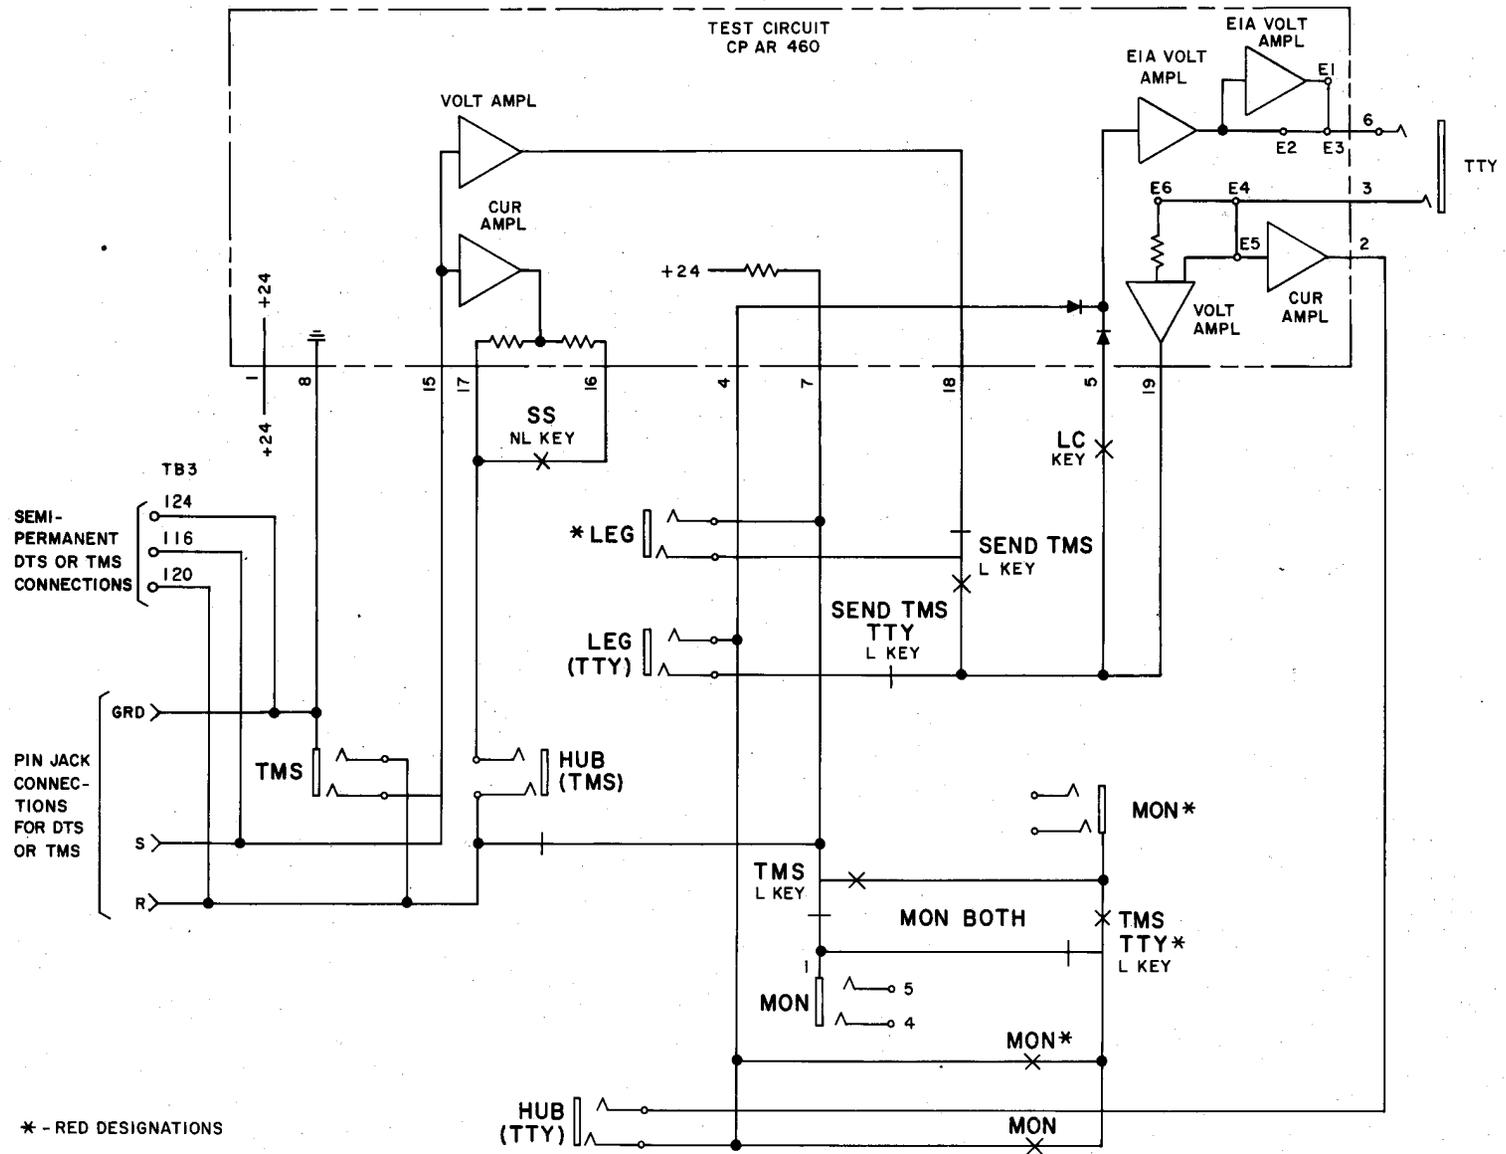

Fig. 3—Test and Cord Panel—Functional Block Diagram
1.07 A functional block diagram of the test and cord circuit shows the electrical connections provided by the test and cord panel (see Fig. 3).
3.04 A cord with sleeve-to-sleeve continuity and equipped at both ends with 310 plugs (3W1A or equivalent) will be required to connect between the bus card circuit and the test and cord circuit. Connections from the test and cord circuit to the test sets or monitoring equipment depend on the test equipment being used and whether the test and cord circuit is arranged for EIA or 20 mA current interface. For example, the connection from the test and cord panel to the TTY is made via the TTY jack with the tip used for receiving, the ring for transmitting, and the sleeve for -24V battery return to complete the send and receive loops (3W1A cord or equivalent) if the circuit is arranged for 20 mA current interface. If the circuit is arranged for EIA interface, the cord must **not** have sleeve-to-sleeve continuity. The transmitter section of the 911A DTS is connected by either the TMS jack ring connection, pin jack S (P1N cord or equivalent), or terminal TB3-116 (refer to Fig. 3). The receive section of the 911A DTS is connected by either the TMS jack tip connection, pin jack R (P1N cord or equivalent) or terminal TB3-120 (refer to Fig. 3). Refer to Section 103-813-100 for information on the cords and connectors required when using a 911A DTS.
4	<p>Connect the data test set equipment to the test and cord panel in accordance with the applicable BSP for the equipment being used (see Fig. 3).</p>